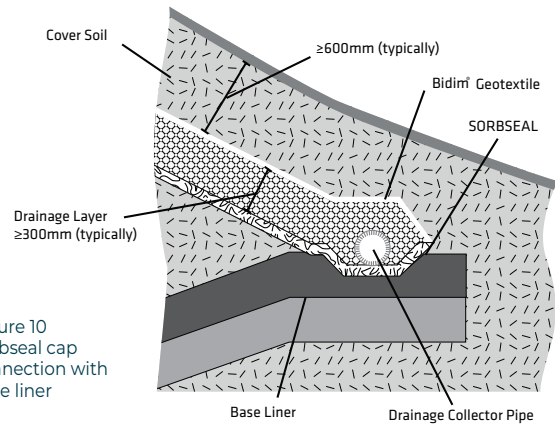

Figure 10 Sorbseal cap connection with base liner
- Integration with thick compacted clay liners is shown in Figure 10;